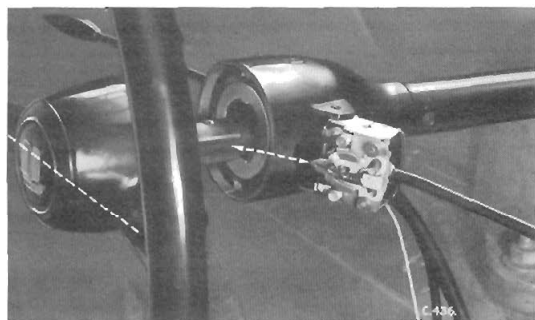
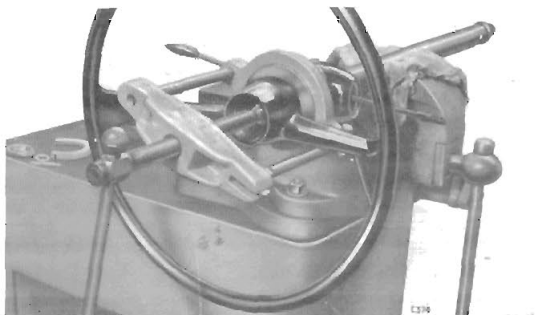

Fig. 24. Removing flasher and lighting switches
Fig. 25. Using Tool No. S3600 to remove steering wheel
1. Remove the cable trough (51).
2. Prise the horn push assembly (63) from the steering wheel boss and withdraw the contact brush (61).
3. Remove the switch covers and detach each switch from the column (Fig. 24).
4. Remove the bolts (35), spring washers (36), and detach the halves of the impact clamp (37) and (24). Withdraw the lower column (9) downwards and detach the nylon washer (38). Remove the upper inner column (39) with the steering wheel (59) in an upwards direction.
5. Hold the column (39) in the protected jaws of a vice and remove the nut (62) and spring clip (60). Use an extractor as shown on Fig. 25 to remove the wheel from the column.